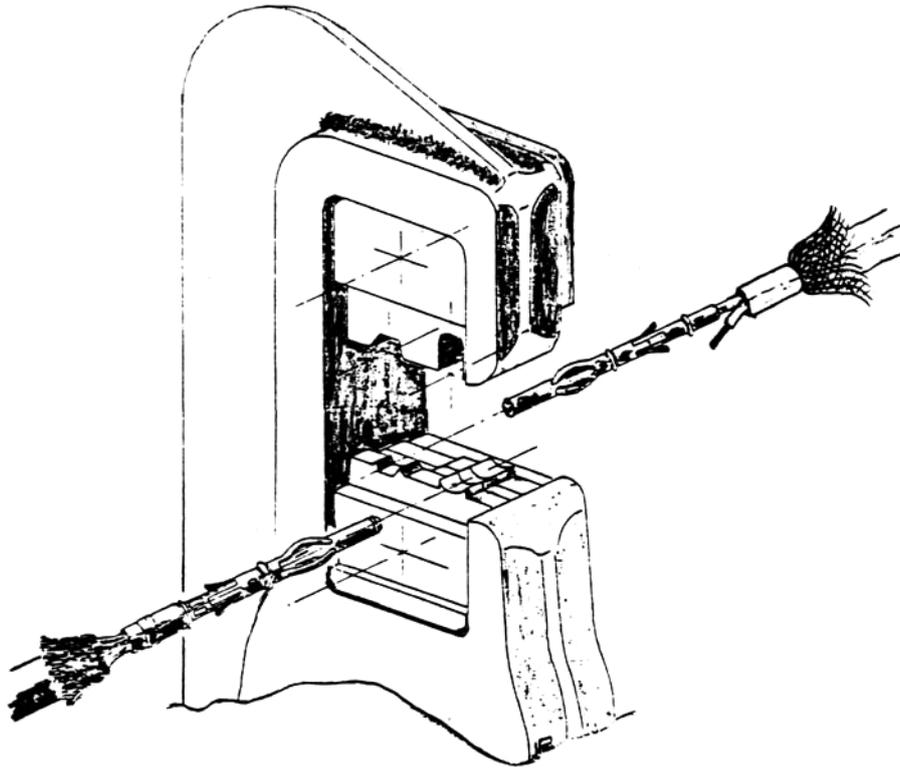

Figure 11
- Perform the hexagonal crimp with hand-tool 69710-1 with crimping dies P/N 483883-1 (see position of contact in the hand-tool figure 11, page 7).
- Crimp with hand-tool P/N 69710-1 and crimping dies P/N 483883-1. (See correct position of contact in the crimping dies, figure 11, page 7).
- Crimp with hand-tool P/N 69710-1 & dies 483883-1. (See correct position of contact in the crimping dies, figure 11, page 7).